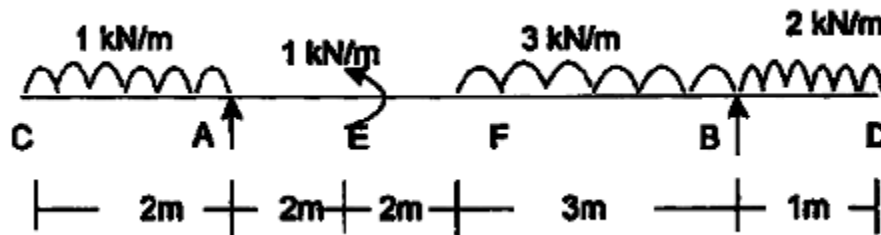

Fig. 5
- (b) Draw S.F.D. and B.M.D. for the beam shown in Fig. 5. Show all the salient points. [8]